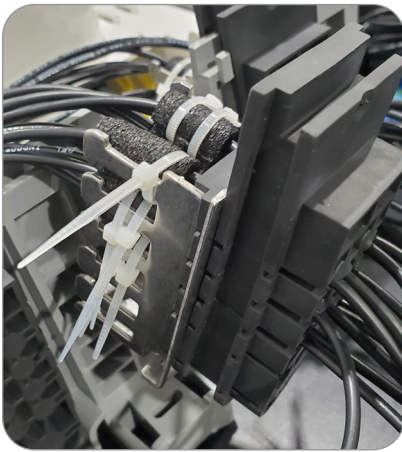
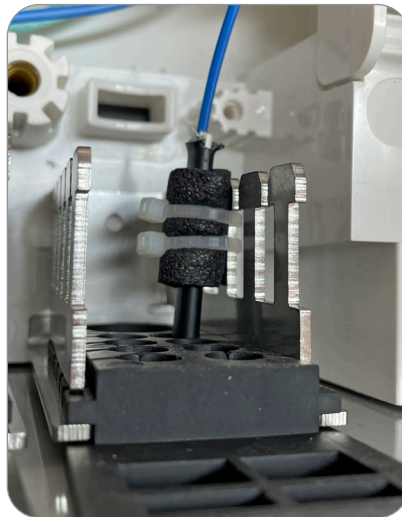

Figure 107
Figure 107a
6. Use foam tape to wrap groups of cables and zip tie to the metal bracket to protect against cable pull out (**Figure 107**). If installing a non-terminated flat drop cable, end the sheath at the metal bracket and secure it to the bracket using foam and zip ties (**Figure 107a**).